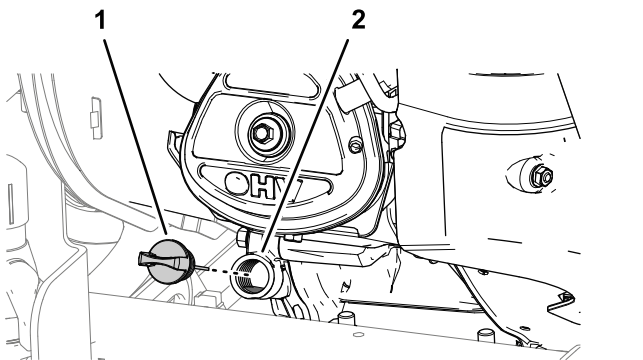

Figure 75
4. Remove the dipstick from the engine and wipe the dipstick with a clean rag (Figure 75).
8. Hand tighten the dipstick into the filler neck (Figure 75).